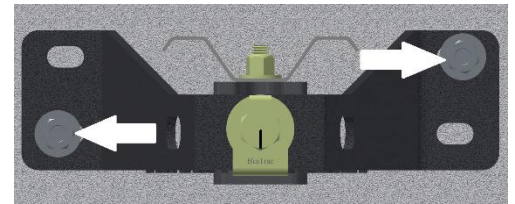

Figure 6: Drill anchor bolts 2 1/4" deep.
13. Drill two anchor bolt holes 2 1/4" deep in the pad diagonally opposite of each other. (Figure 6)
***When anchoring 15K or greater assemblies you will use four (4) anchor bolts.***